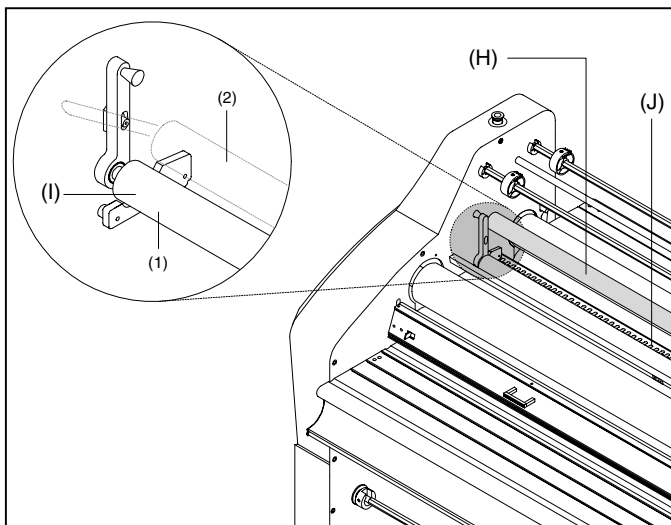

Fig. 17
**H. IDLER BAR:** (Figure 17) The idler bars, located near each heat roller, are used to direct the film to the heat roller nip.
**I. CHILL IDLER:** (Figure 17) Assist in the cooling process of the web material as it exits the heat rollers.
**J. COOLING FANS:** (Figure 17) Assist in the cooling process by pushing unheated air onto the web material as it exits the heated rollers. This feature can be controlled from the control panel.